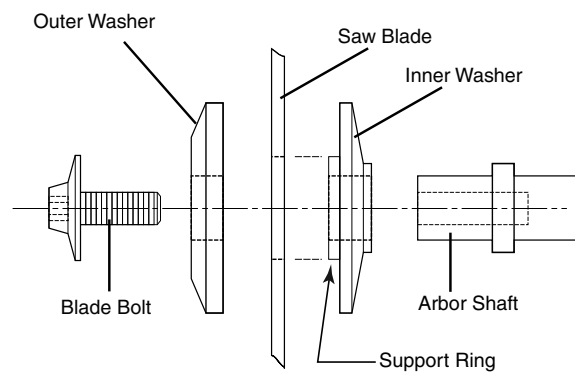

Figure 5. Blade Hardware
1. Press and hold the arbor lock (red button on opposite side of upper guard – item 42, page 9). Rotate the blade slowly while pressing the arbor lock until it fully seats into its lock position.
3. Remove the blade bolt and outer washer. Carefully grab the blade. Slide the blade away from the inner washer and off the arbor shaft, then down and away from the saw. Leave the inner washer on the arbor shaft (see Figure 5).